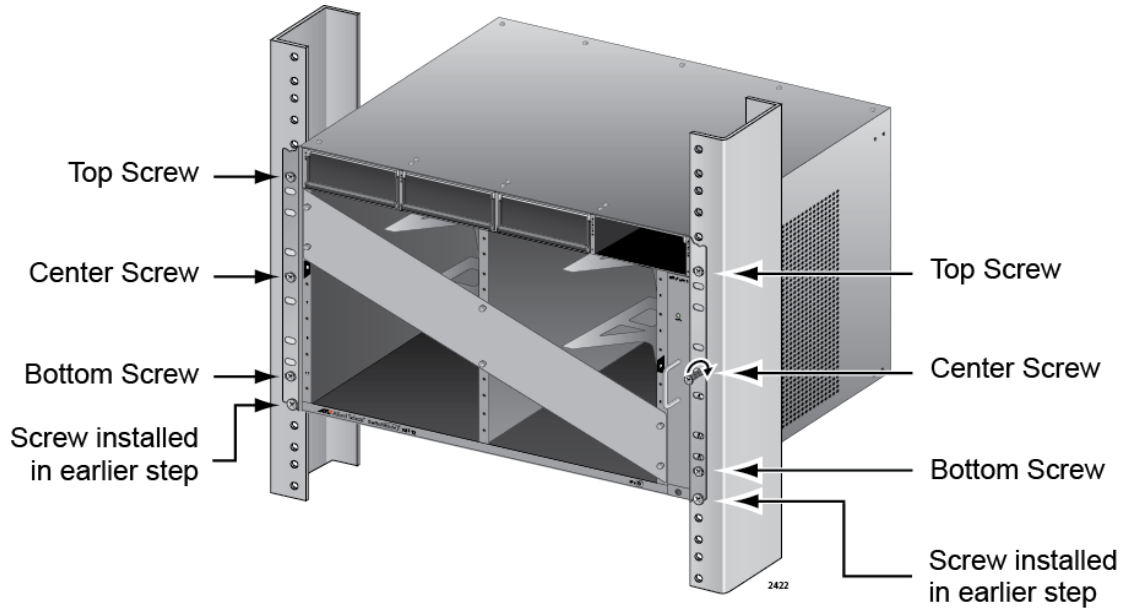

Figure 38. Installing the Rack Mount Screws
4. Install six rack mount screws (not provided) to secure the chassis to the equipment rack, as shown in Figure 38 on page 102.